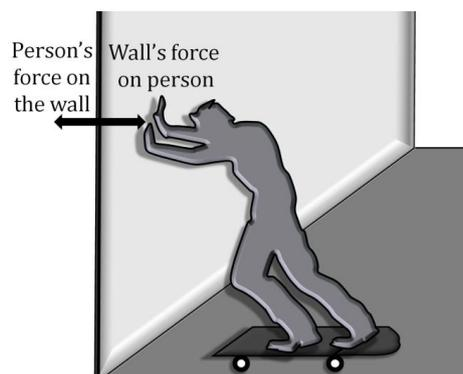

Figure 4. Man standing on a skateboard pushing against the wall
6. Teacher asks the student teams to explain the following effect: Assume that you are standing on a skateboard close to a wall and suddenly you push against the wall. Which force is greater, the one you exert on the wall or the one the wall exerts on you? (see Fig. 4).